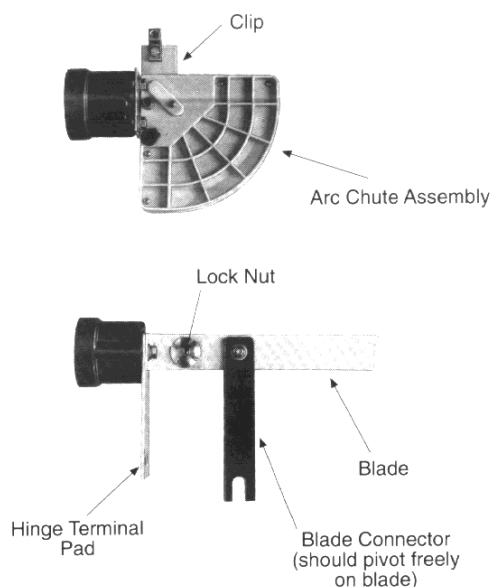

Figure 2: Pole Assembly
6. Reassemble the blade connector at point "A," figure 1. Tighten the locknut until just snug; the blade connector must pivot freely on the blade (figure 2).